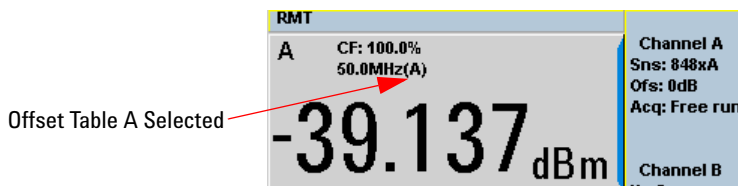

Figure 2-9 Frequency dependent offset indicator
- 4 Press  again to display the measurement screen. Figure 2-9 shows which offset table is selected.